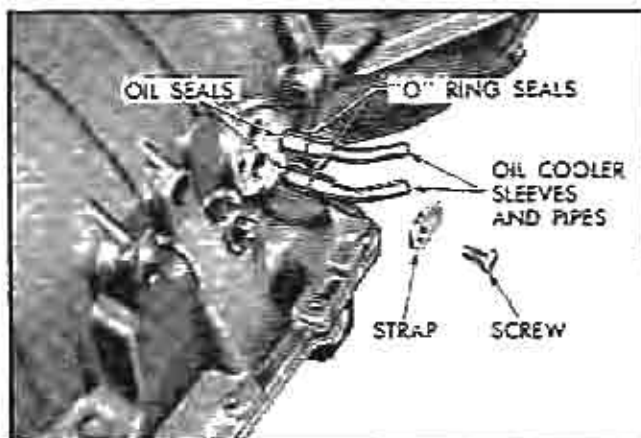

Fig. 45 Oil Cooler Sleeve and Seals
1. Remove oil cooler strap attaching bolt and strap (Fig. 45).